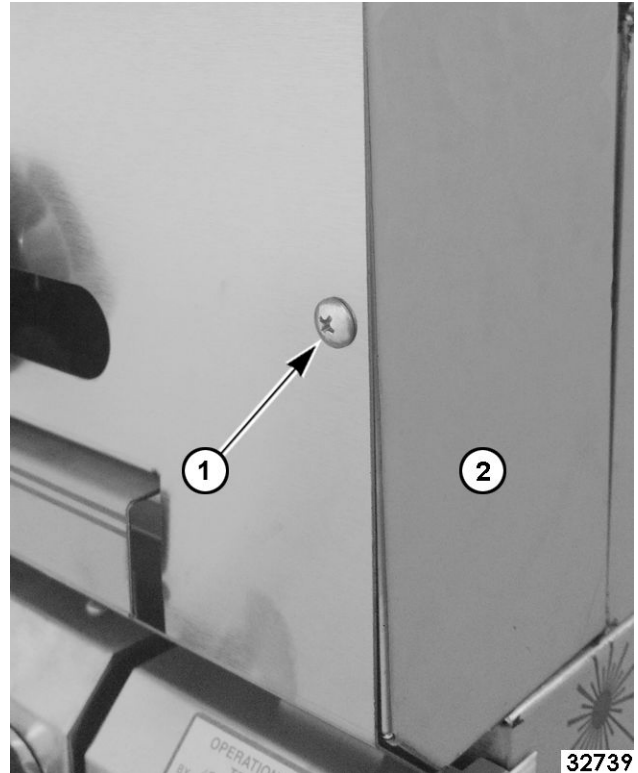

Fig. 2
3. Remove drive screws (1, Fig. 2) on both sides securing manifold cover in place and remove cover.
4. Remove end caps (2, Fig. 2), if applicable.